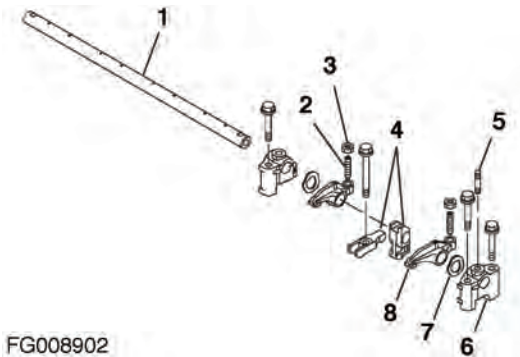

Figure 156
3. Lubricate the rocker arm shaft. Slide the rocker arm supports (6, Figure 156), wave washers (7, Figure 156), rocker arms (8, Figure 156), and fuel injector retainers (4, Figure 156) onto the shaft.
NOTE: To properly align the rocker arm shaft with the rocker arm shaft supports, first reinstall one of the end rocker arm supports (6, Figure 156) with a hole for the shaft alignment stud (5, Figure 156). Align the hole in the rocker arm shaft and the hole in the rocker arm support bracket. Reinstall the alignment stud.
NOTE: Figure 156 shows components for one cylinder. Components for all remaining cylinders are assembled in the same order.
4. Position the rocker arm assembly on a flat surface. Reinstall the alignment studs (5, Figure 156).
6. If removed, reinstall the valve adjusting screws (2, Figure 156) and lock nuts (3, Figure 156).